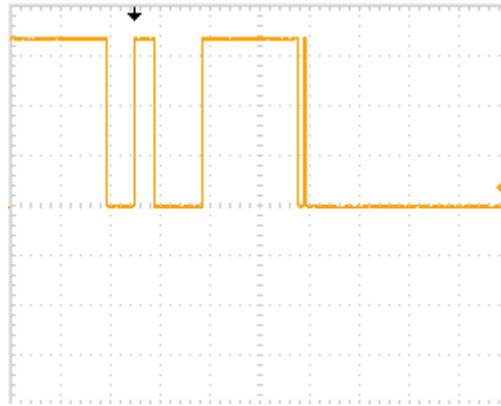
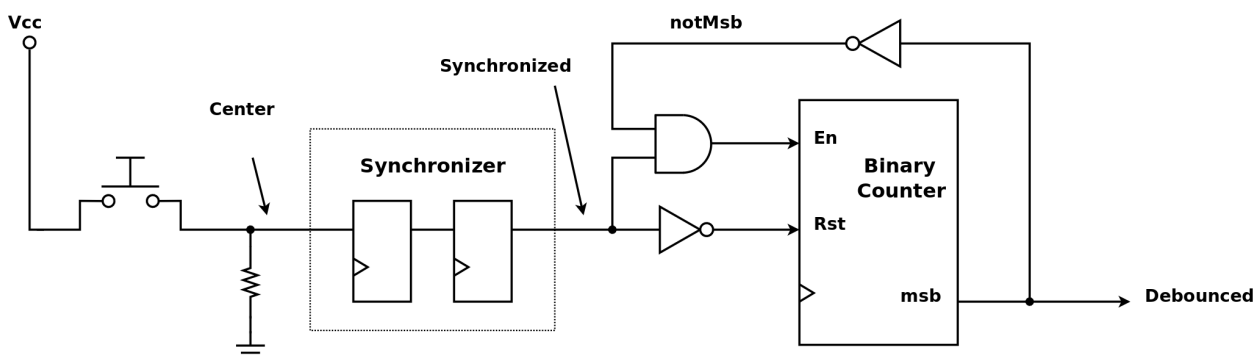
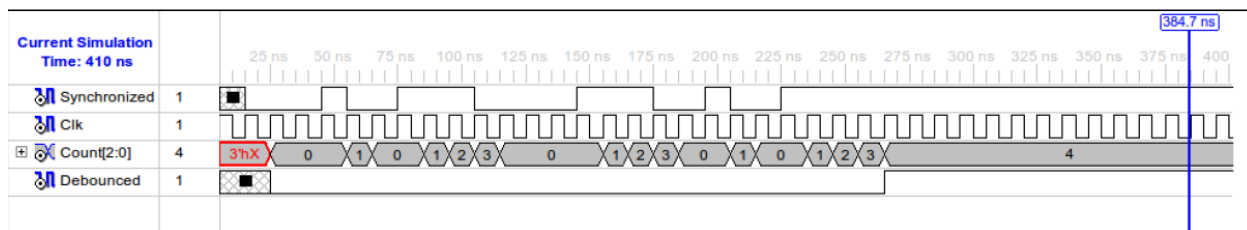

Figure 3: Electrical Chatter
Figure 4: Simple Debounce Circuit
Figure 5: Debounce Circuit Waveform
Up to this point, we have assumed that switches and push-buttons, used for receiving input from the user, are ideal in terms of the output signals that they produce. Unfortunately, this is not the case in the real world because these devices rely on less than ideal electromechanical contacts to generate electrical signals from mechanical events. Electrical chatter as seen in Figure 3 is generated every time a switch is flipped or a button is pressed. This chatter (a.k.a switch bounce) consists of several short duration pulses, which appear as a bouncing signal in the interval immediately after the electromechanical contacts are brought together.
The diagram in Figure 4 demonstrates how a counter can be used to debounce a signal from a push-button. For the moment, ignore the *synchronizer* portion and examine the right half of the debounce circuit. While the *Synchronized* signal is LOW, the counter is held in *reset* (i.e. $Count = 0$). Likewise, the most-significant-bit (msb) of the counter is LOW; therefore, *notMsb* is HIGH. When the *Synchronized* signal transitions to HIGH, the *reset* of the counter is released so the counter will begin counting. Figure 5 illustrates this behavior. Assuming the bit width of the counter is sufficiently sized, the msb of the counter will never become HIGH while the *Synchronized* signal bounces because the counter will continually be *reset*. Thus, the *Debounced* signal should remain LOW during this period. Once the *Synchronized* signal smooths out, the counter will *saturate*. In other words, the msb of the counter will become HIGH, which will in turn force *En* to go LOW, stopping the counter from counting. At this point, the *Debounced* signal will be HIGH until the *Synchronized* signal goes LOW again, in which case the process repeats.
The remaining components in Figure 4 should look familiar. For example, the pull-down resistor brings the output of the push-button circuit to a LOW state when the button is not pressed. This configuration is similar to that of the switches from earlier labs. For the experiments in lab, we will use the push-buttons on the ZYBO board and the XDC to specify the use of the pull-down resistor within the FPGA.
3. If the Seconds per Division setting for Figure 3 was set to 1 ms/div, what do you think would be a good bit width for the counter in Figure 4, assuming a 50 MHz clock signal was driving the counter? Explain your answer.